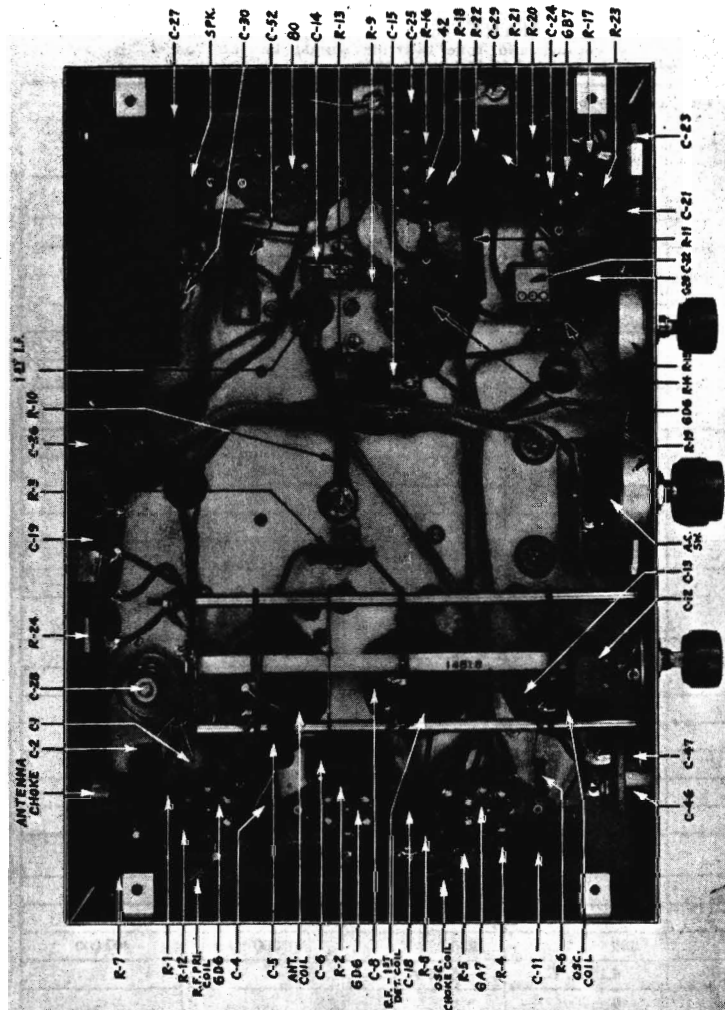

FIGURE 4
3. Supply a 600 Kilocycle signal to the antenna of the set. Tune the gang condenser to 600 Kilocycles. Adjust the upper section (C-47, Figure 4) of the low frequency padding condenser for maximum output with minimum input from the service oscillator. At the same time rock the gang condenser back and forth across the signal to make sure the correct peak is obtained. The low frequency padding condensers are located on the right front side of the chassis.
3. Supply a 1650 Kilocycle signal to the antenna of the set. Tune the gang condenser to 1650 Kilocycles. Adjust the lower section (C-46, Figure 4) of the low frequency padding condenser for maximum output with minimum input from the service oscillator. At the same time rock the gang condenser back and forth across the signal to make sure the correct peak is obtained. The low frequency padding condensers are located on the right front side of the chassis.